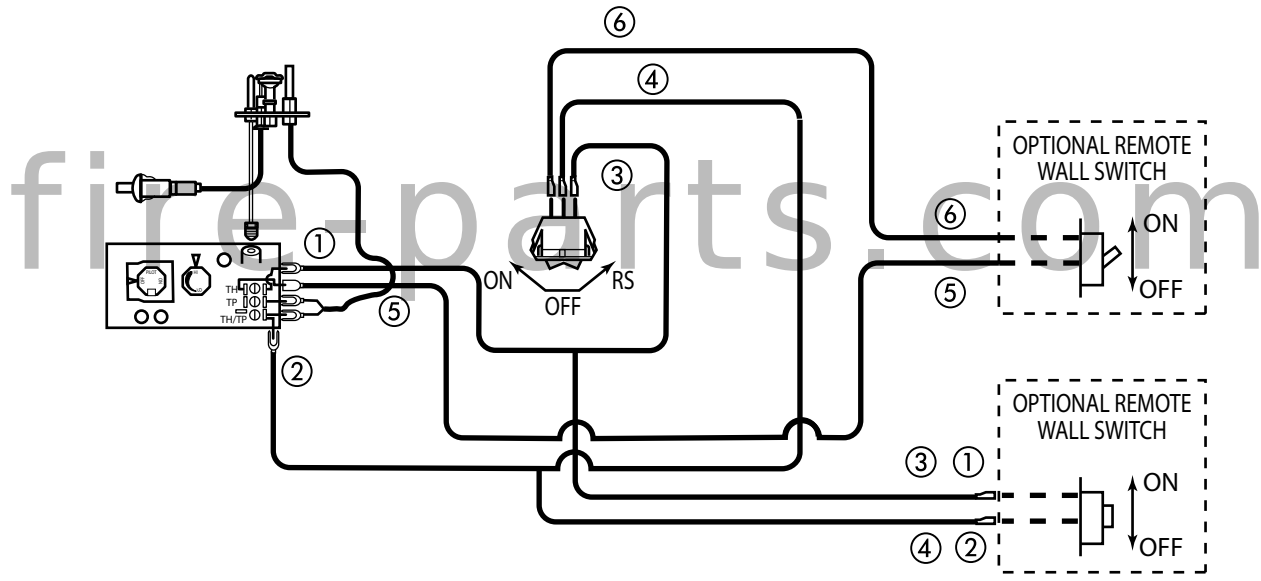

Figure 42 - Wiring Diagram for Wall Switch
A remote wall switch and up to fifteen (15) feet of 18 Ga. wire may be used with this appliance. Attach the wall switch in a junction box at the desired location on the wall. *Figure 42.* Do not extend beyond the wall switch wire length provided.